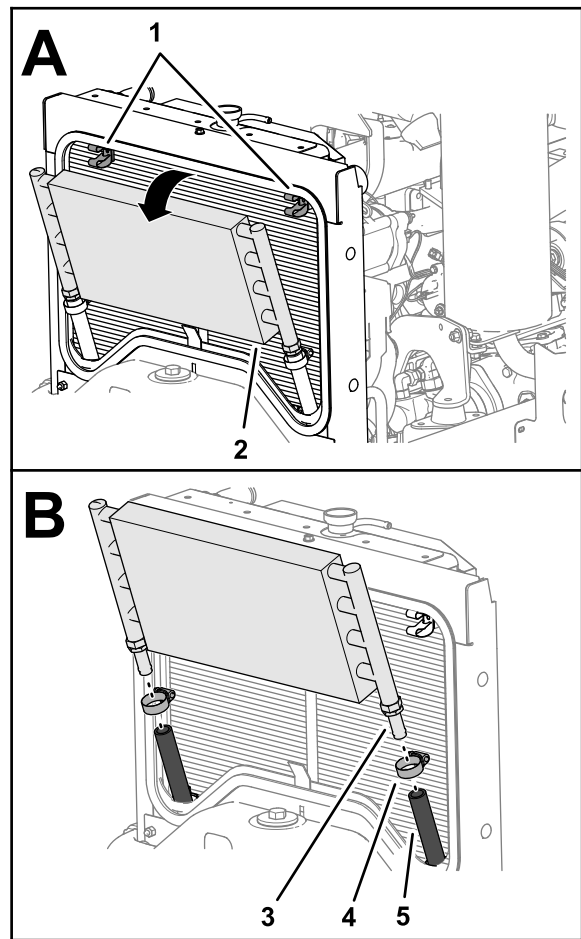

Figure 14
4. Pull the top of the hydraulic fluid cooler rearward and out of the 2 gripper clips (Figure 14).
5. Remove the 2 hose clamps that secure the hoses to the barbed fittings at the bottom of the hydraulic fluid cooler (Figure 14).
6. Separate the cooler from the hoses and remove the cooler from the machine (Figure 14).